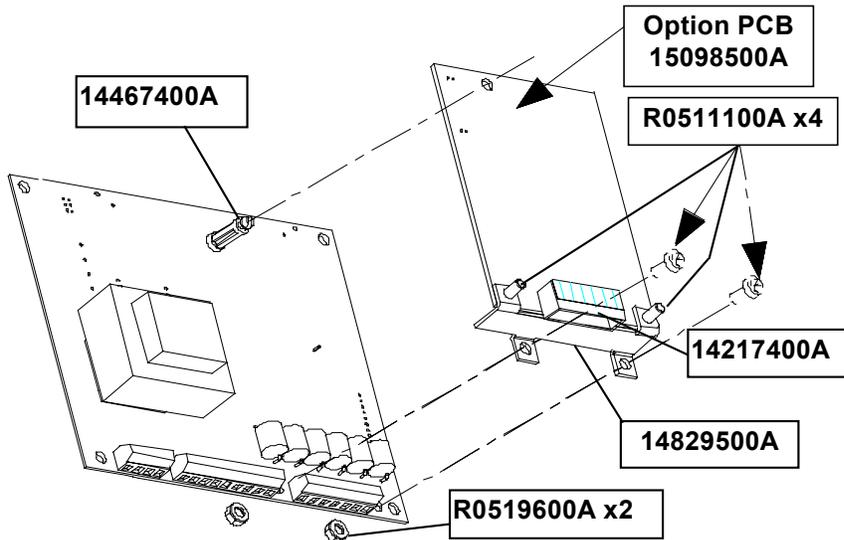

Figure 6-1 Allen-Bradley PCB Installation in Harsh Environment Enclosure
5. Press the snap-in standoff (14467400A) into the Controller PCB (see Figure 6-1).